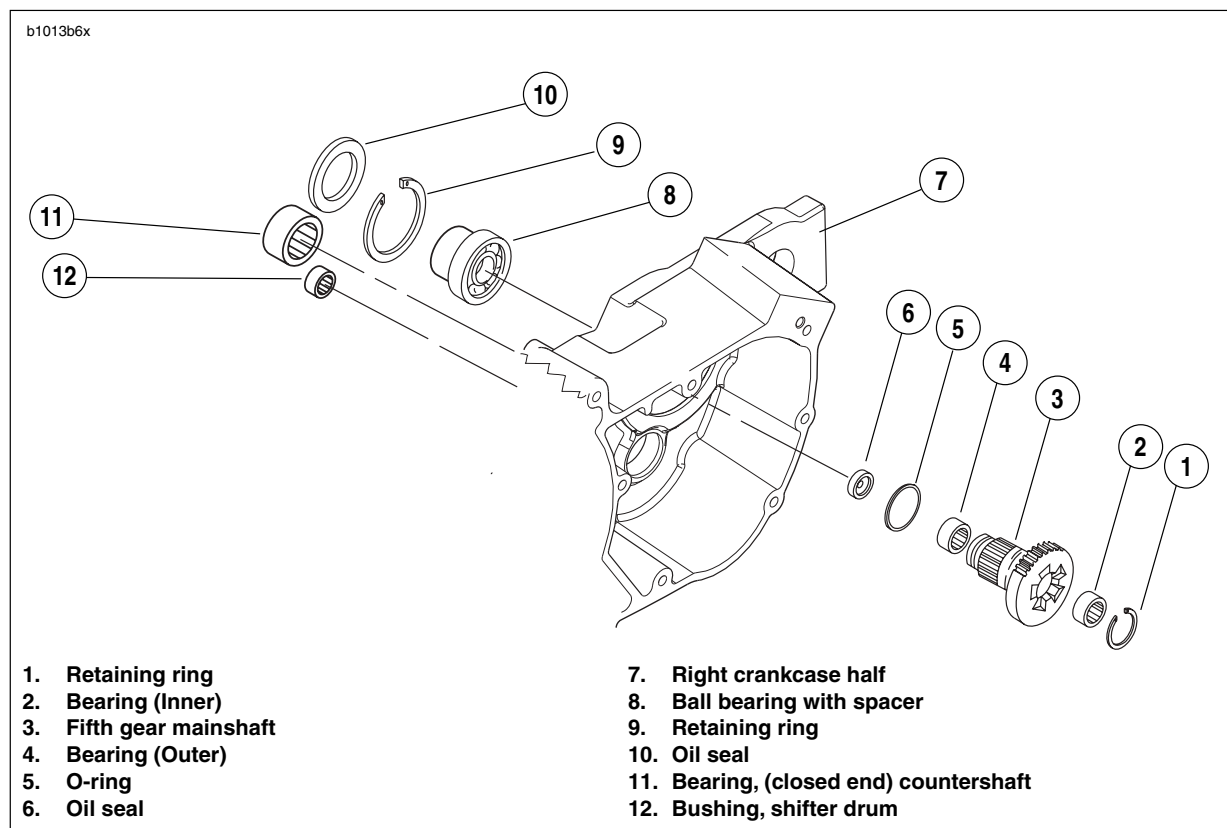

Figure 6-84. Transmission Assembly-Right Crankcase Half
2. See Figure 6-84. Install **new** o-ring (5) into groove in main drive gear. Lubricate o-ring with GENUINE HARLEY-DAVIDSON FORMULA+ TRANSMISSION AND PRIMARY CHAINCASE LUBRICANT.
See Figure 6-84. Make sure to install **new** o-ring (5) onto main drive gear before installing main drive gear into crank-case.
4. At outside of case, place INSTALLER CUP (Part No. HD-35316-12) (4), NICE BEARING (5), FLAT WASHER (6) and NUT (7) over end of bolt. Tighten nut until main drive gear bottoms against main drive gear bearing.
6. See Figure 6-84. Tap in **new** oil seal (6) at threaded end of main drive gear to a depth of 0.060-0.030 in. (1.524-0.762 mm).
1. See Figure 6-84. From inside transmission case use a suitable BEARING DRIVER/PULLER to remove countershaft bearing (8) from crankcase bore.
2. See Figure 6-84. From the outside of the case place the closed end needle bearing (11) open end first next to the bearing bore. Hold the driver squarely against the closed end of the bearing and tap the bearing into place. The bearing is properly positioned when it is driven flush or 0.030 in. (0.762 mm) below the outside surface of the case.
1. See Figure 6-84. Using SNAP-ON BUSHING DRIVER SET (Part No. A-157C) with a 1/2 inch adapter (Part No. A157-8), install **new** bushing (12).